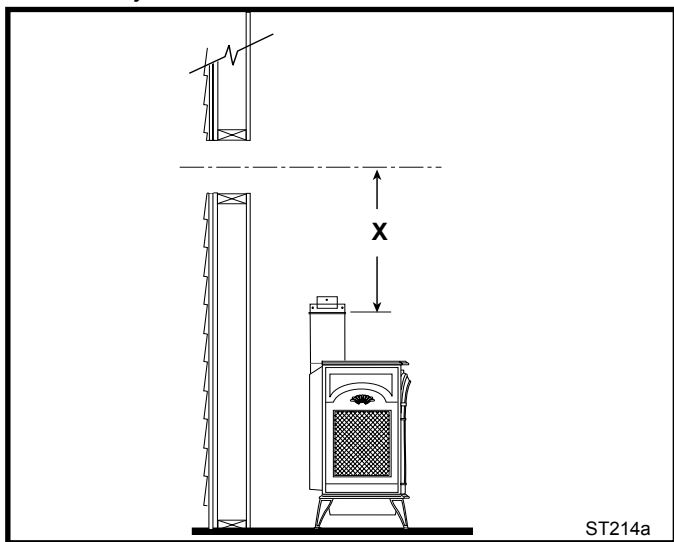

Figure 25 Determine the vertical pipe length.
4. **For Vermont Castings Group Vent Pipe only:** If necessary, measure to determine the vertical length (X) of pipe required from the adapter pipe to the wall cutout centerline, including a 2" overlap at the joint. (Figure 25) use a hacksaw or tin snips to trim the pipe as needed.